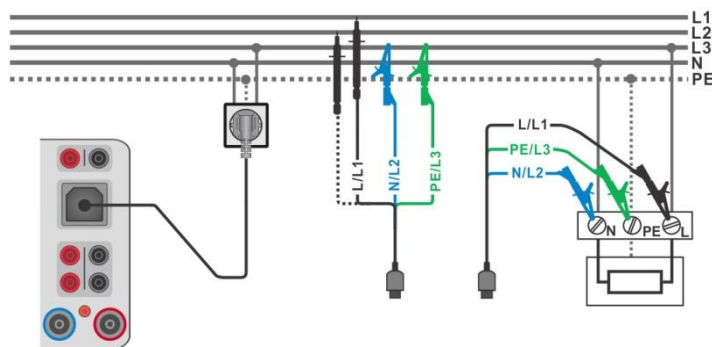

Figure 6.75: Phase-neutral or phase-phase line impedance measurement – connection of Plug test cable or 3-wire test lead
- › Connect 3-wire test lead or Plug test cable to the object under test, see **Figure 6.75**.